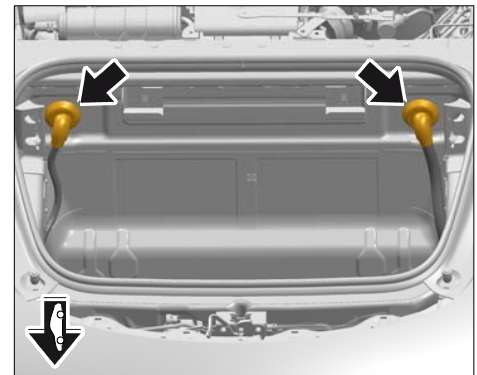

Figure 16
- 3 Check that rubber sleeves on wire harness for luggage compartment are fitted correctly all the way around ⇒ *Figure 16 -arrows-* and adjust them if necessary.